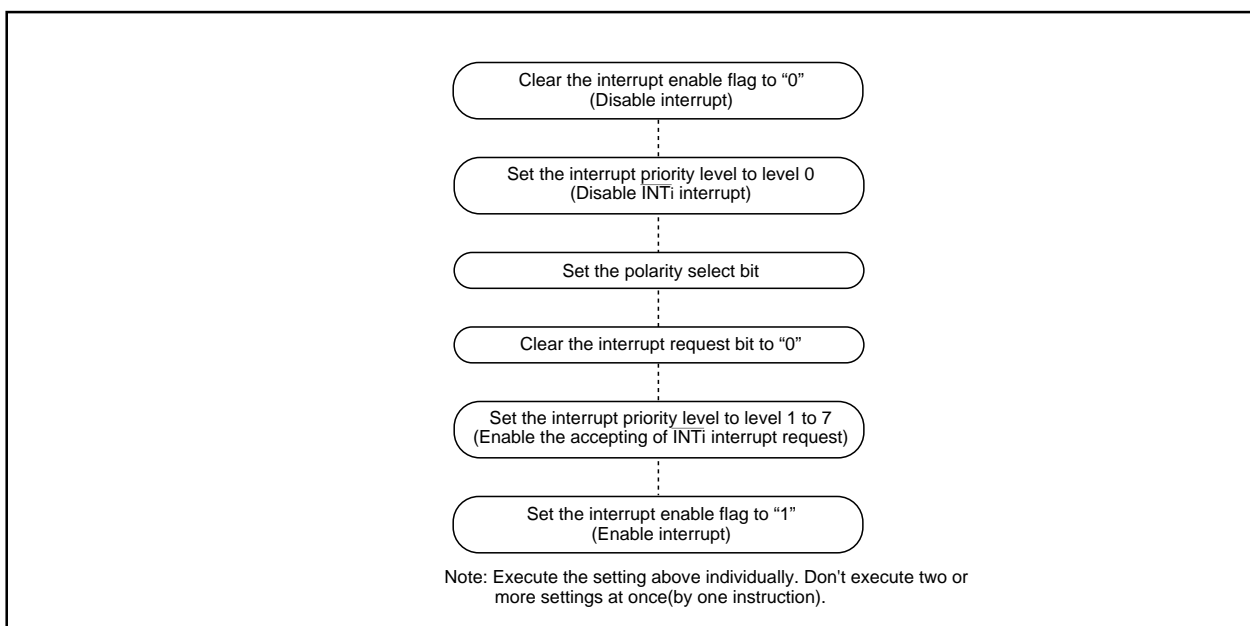

Figure 1.10.13. Switching condition of  $\overline{\text{INT}}$  interrupt request
- When the polarity of the  $\overline{\text{INT0}}$  to  $\overline{\text{INT2}}$  pins is changed, the interrupt request bit is sometimes set to "1". After changing the polarity, set the interrupt request bit to "0". Figure 1.10.13 shows the procedure for changing the  $\overline{\text{INT}}$  interrupt generate factor.